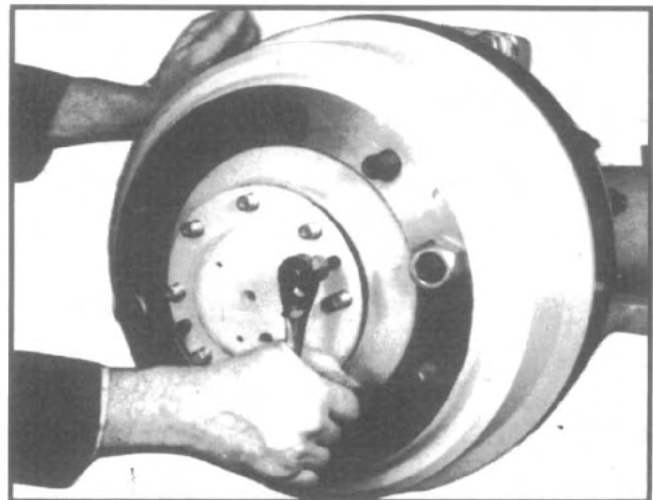

Fig. 15
6. The flange should be loose enough to remove by hand. If not, use suitable bolts in the extractor holes to remove the outer axle shaft. (See fig. 15, Page 9.)
6. The flange should be loose enough to remove by hand. If not, use suitable bolts in the extractor holes to remove the outer axle shaft. (See fig. 15).